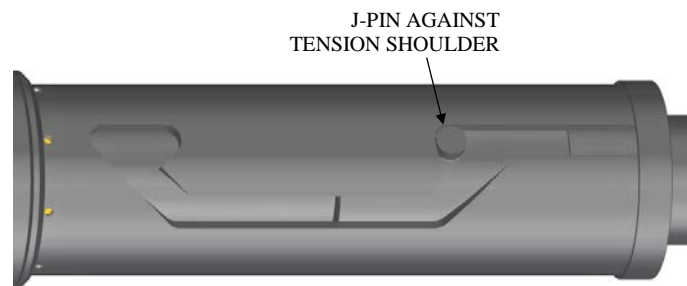

Fig. 5
K-1.26) Position J-pin of J-pin sub (23) on tension shoulder in J-slot of J-body (20) (Fig. 5).